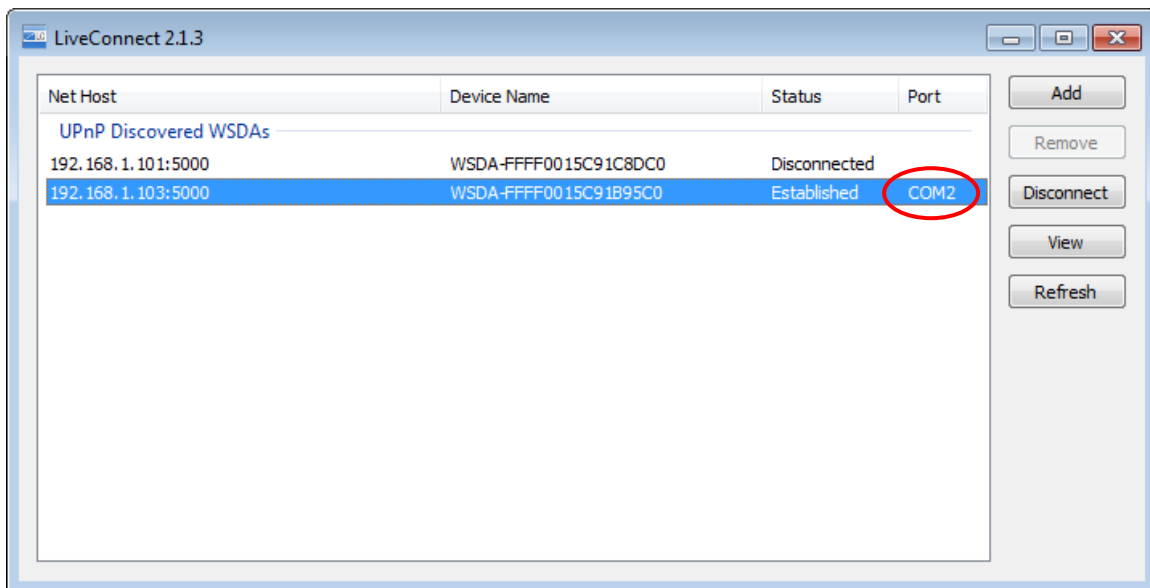

Figure 20. LiveConnect window
3. Highlight the WSDA[®]-1000 device and click the 'Connect' button. In a moment the device's Status will change from 'Disconnected' to 'Connected' and a COM port will be assigned. The example in *Figure 20* shows a WSDA[®]-1000 connected on COM 2.